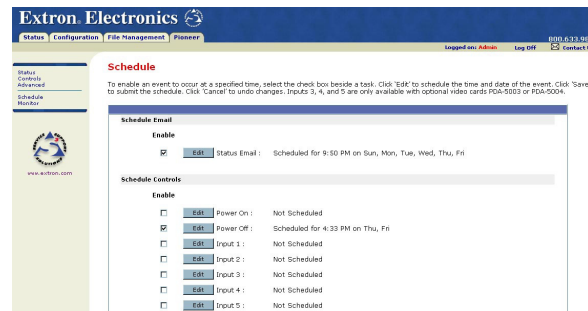

Figure 4-12 — Pioneer Schedule screen
Using the schedule page (figure 4-12), you can create scheduled events such as power on/off, input changes, or send status email.
1. Click Schedule on the menu on the left side of the window. The Schedule screen (figure 4-12) is displayed.